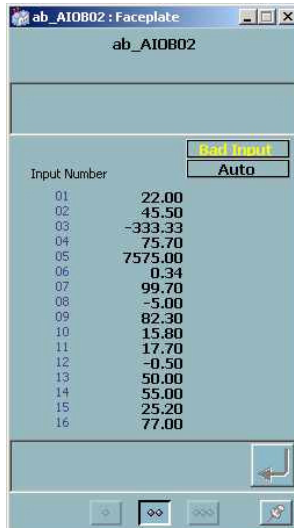

Figure 216. AI0B Module
**Analog Input Output Block (AIOB).** The Analog Input Output Block module faceplate represents a group of 16 analog values sourced from a CIO board. Figure 216 shows the layout of the AIOB normal sized faceplate and its attributes.